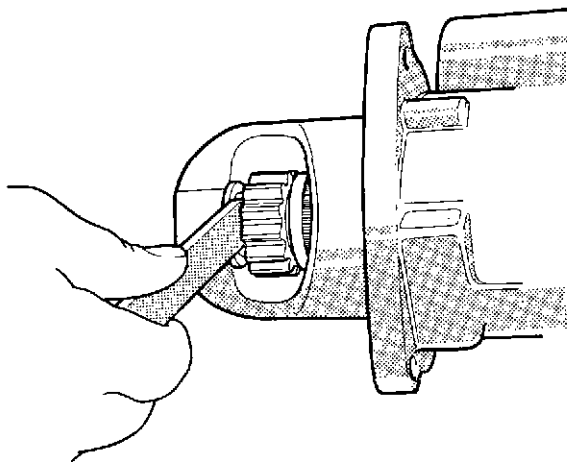

Fig. 4 Checking pinion clearance
- 33 Connect a 24 volt supply to the switch terminals 1 and 3 (see fig. 2) and, with the solenoid energised, gently push in the pinion assembly against the shift lever cams. Using the Gauge, Part No. GO 14001 (fig. 4), check that the gap between the face of the pinion and the thrust washer is 4,76 mm (0.187 inch).